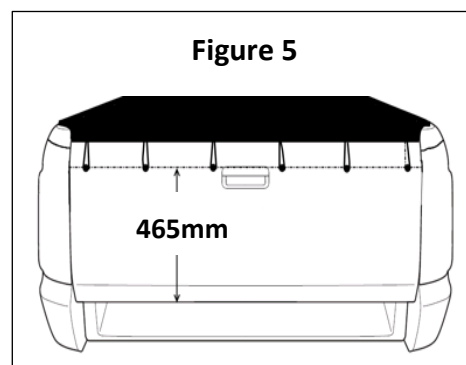

Figure 5
12. To fit the rope buttons to the tailgate measure 465mm up from the bottom edge on both sides of the tailgate and mark. With a straight edge draw a line between these two marks. **See Figure 5**